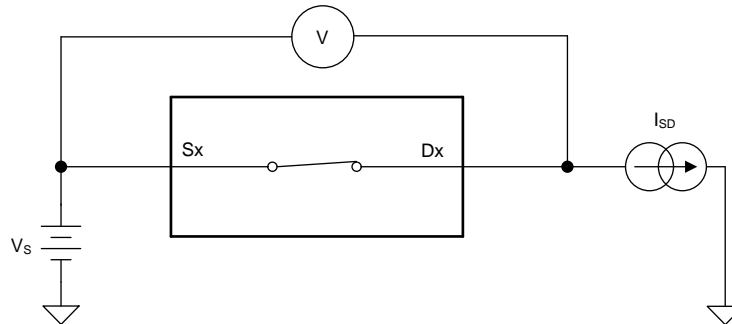

图 27. On-Resistance Measurement Setup
The on-resistance of a device is the ohmic resistance between the source (Sx) and drain (Dx) pins of the device. The on-resistance varies with input voltage and supply voltage. The symbol R_{ON} is used to denote on-resistance. The measurement setup used to measure R_{ON} is shown in 图 27 . Voltage (V) and current (I_{DS}) are measured using this setup, and R_{ON} is computed as shown below with $R_{ON} = V / I_{SD}$: